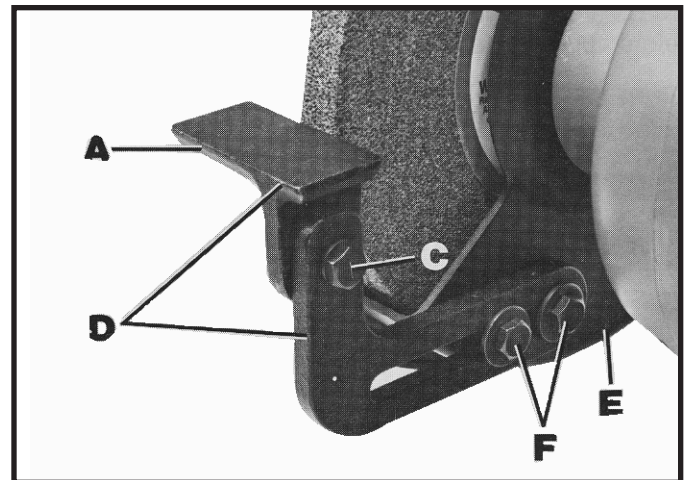

Fig. 2
2. Assemble left tool rest assembly (D) Fig. 2, to the inside of left wheel guard (E), and fasten with two 5/8 inch-long screws and flat washers (F) as shown.
4. Each tool rest assembly (D) Fig. 2, is adjustable so it can be positioned slightly below the centerline of the wheel and as close to the grinding wheel as possible, giving maximum support to the piece that is being ground. A distance of 1/8-inch or less between the grinding wheel and the inside edge of the tool rest should always be maintained. When the tool rest is positioned correctly, tighten hardware (C) and (F). As the grinding wheel wears down to a smaller diameter, re-adjust the tool rest closer to the wheel. Freehand grinding without the use of a tool rest should always be done on the lower quarter of the wheel.